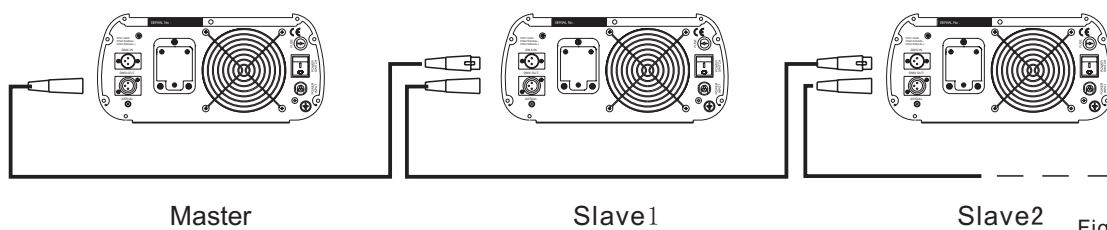

Fig.5
(2) The connection of Master/Slave Control Mode(see Fig.5):
(3) Wireless remote control using: